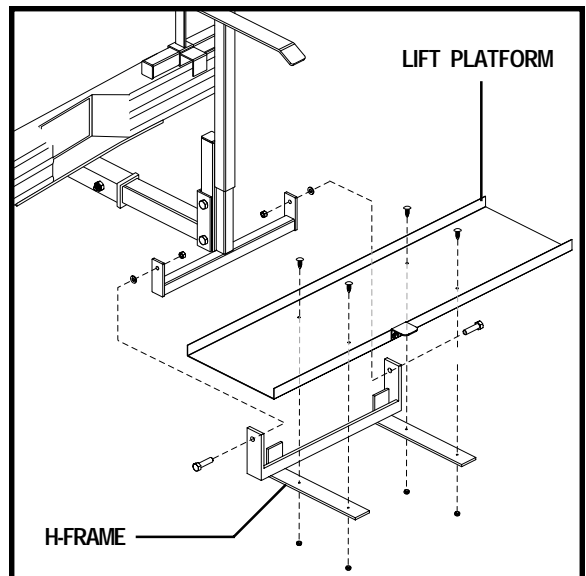

Figure 4. Lift Platform Installation
6. Position the lift platform over the lift H-frame, aligning the mounting holes in each. See figure 4.
7. Secure the lift platform to the H-frame with the supplied hardware. See figure 4.